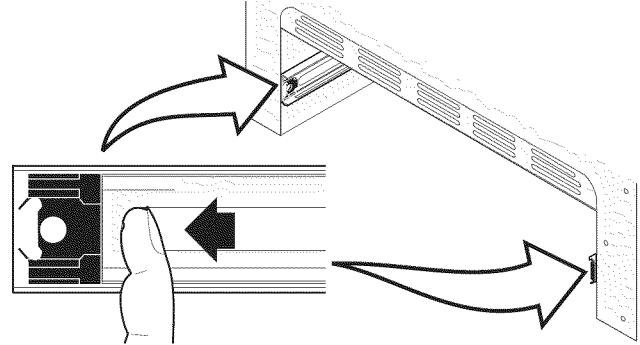

Figure 40: Bearing glide placement
1. Pull the bearing glides to the front of the outer compartment glide channels until they snap into place (See Figure 40).